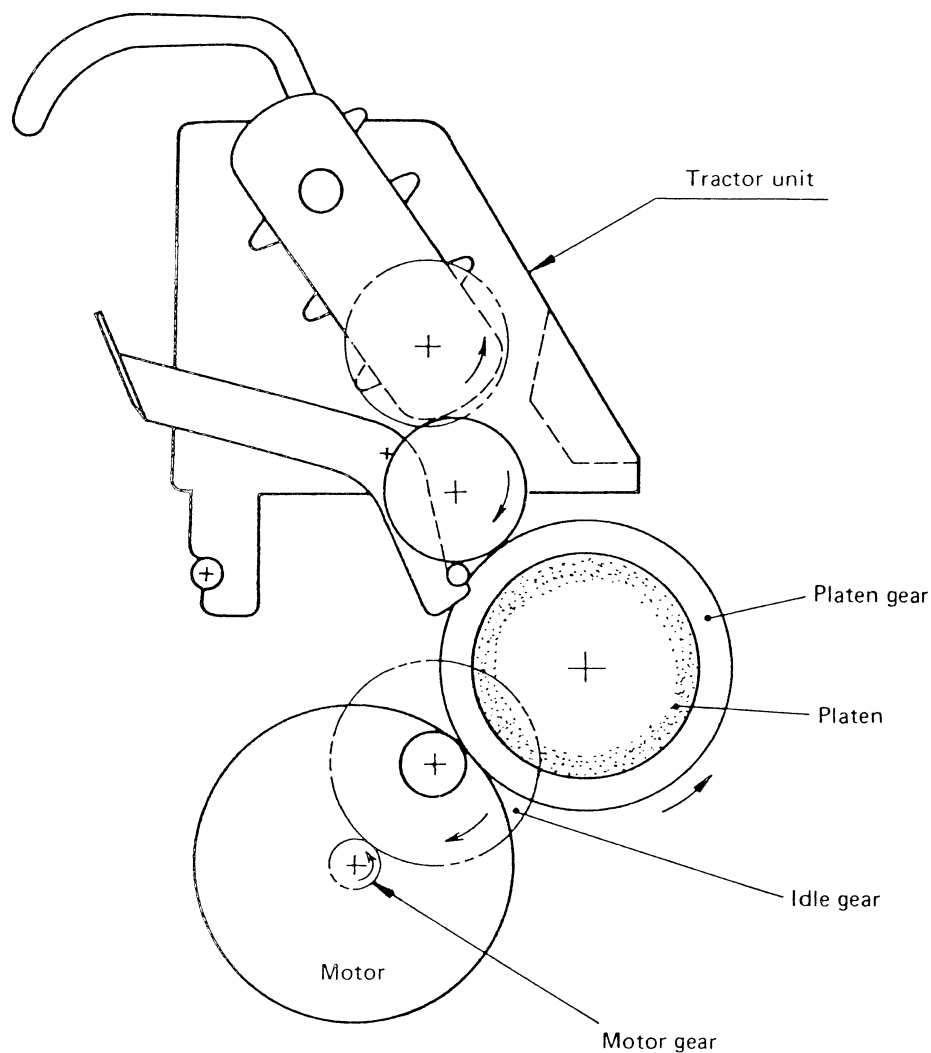

Fig. 5
(1) Paper feeding operation (see Fig. 5)